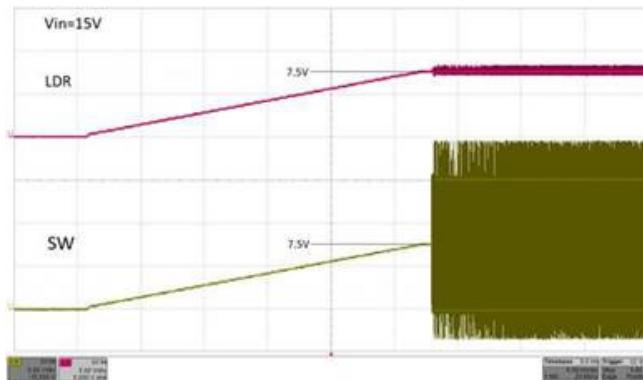

Figure 7: Soft-start Response
- The LDR (TEC+) output and SW pin voltage response should be similar to what is shown in Fig. 7.
- Entering the ‘u’ command disables the switcher output (SW) and resets the LT8722